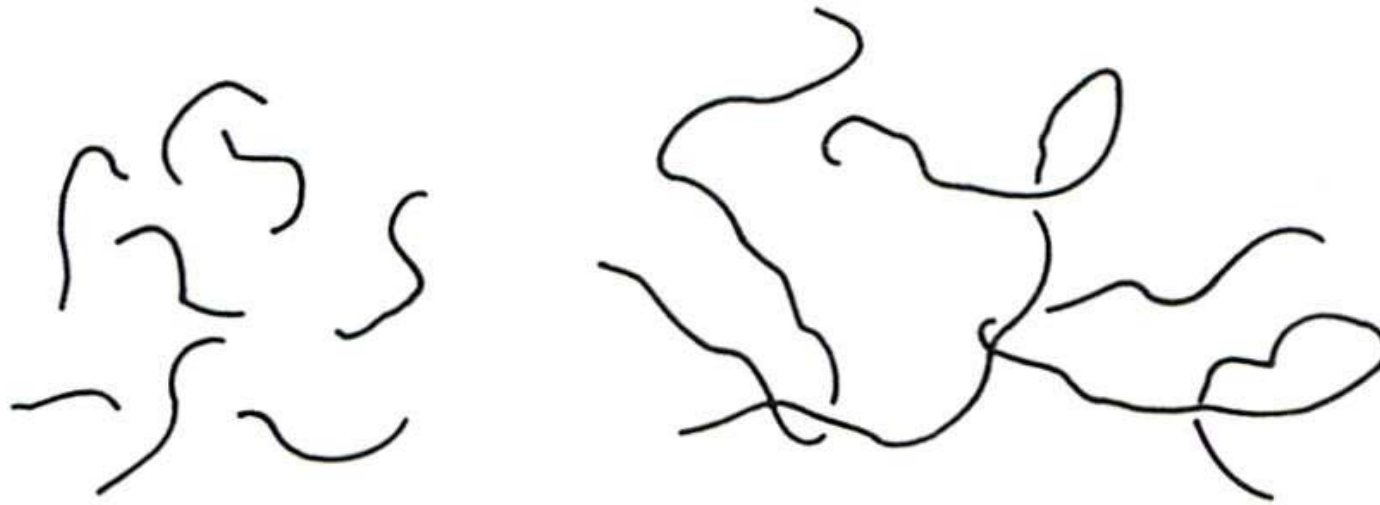

Figure 1.3 Entanglement of polymer chains.
- The long chain length allows for **entanglement** (see Figure 1.3). The entanglements help hold the whole material together under stress. In the melt state, chain entanglements cause the viscosity to be raised very significantly also.
- The long chains shown in **Figure 1.3** also illustrate the **coiling** of polymer chains in the amorphous state. One of the most powerful theories in polymer science (2) states that the conformations of amorphous chains in space are random coils; that is, the directions of the chain portions are statistically determined.
Figure 1.3 Entanglement of polymer chains. (a) Low molecular weight, no entanglement (b) High molecular weight, chains are entangled. The transition between the two is often at about 600 backbone chain 16 atoms.